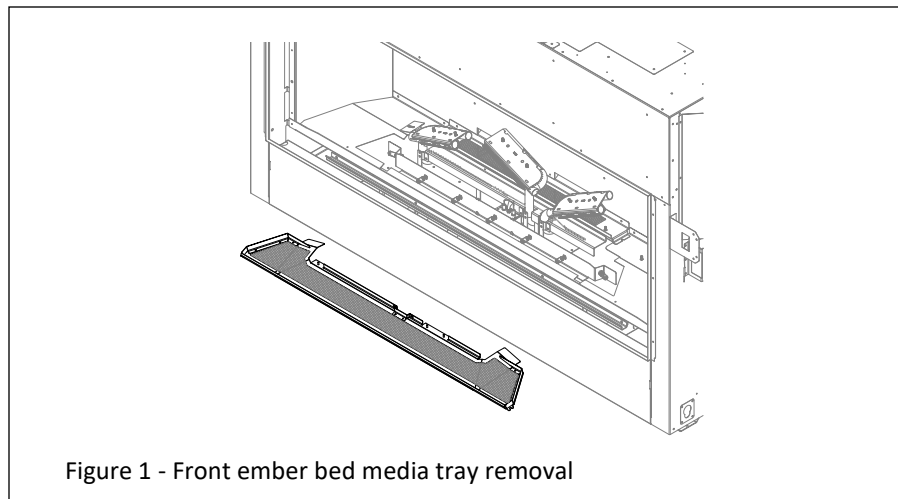
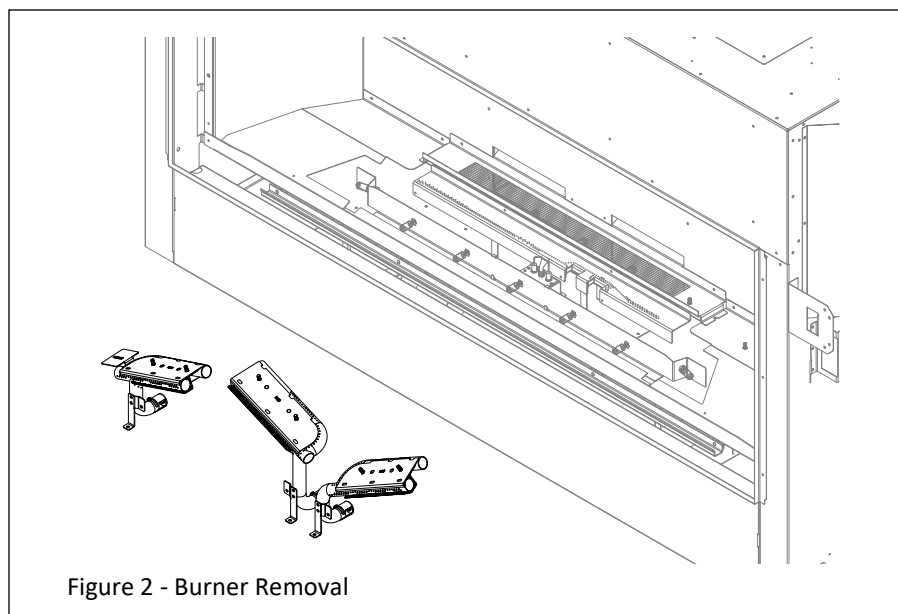

Figure 1 - Front ember bed media tray removal
Figure 2 - Burner Removal
1. Remove valance from fireplace. Remove and retain (2) screws from the front ember bed media tray. Lift tray up and out of firebox. See Figure 1. Remove the (6) sheet metal screws that secure the left, center, and right burners to the bottom burner and floor of the control board. Remove the left, center, and right burners. See Figure 2.